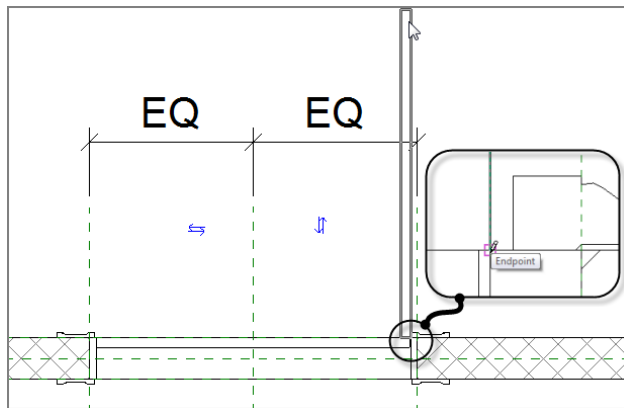

FIGURE 17.27: Drawing the symbolic door swing
2. Draw a line straight up from the right corner of the jamb (on the exterior side of the wall) 4'-0" (1200mm), as shown in Figure 17.27.
5. Draw another line to the right $1\frac{3}{8}$ " (35mm) (see Figure 17.27).